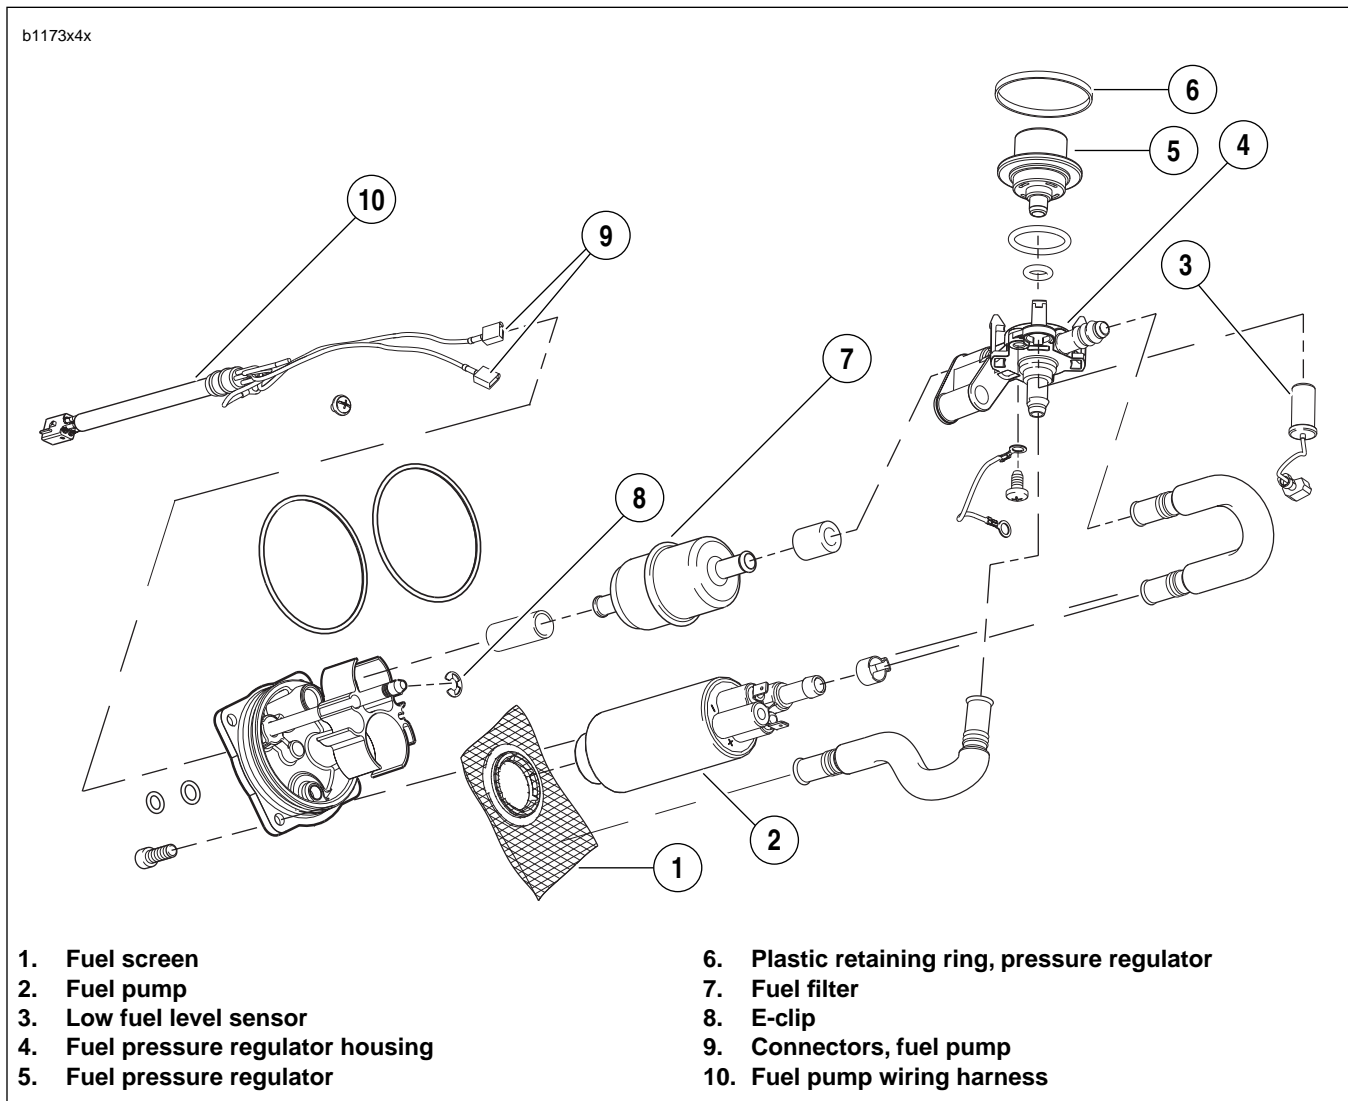

Figure 4-98. Fuel Pump Assembly
3. Remove ground fastener (12) from the fuel pump and fuel filter bracket (9).
4. Remove fuel pressure regulator E-clip (7).
5. Pull regulator housing (3) and fuel pump (8) with bracket (9) as an assembly.
6. See Figure 4-98. Pry fuel screen (1) from fuel pump (2).
8. Install regulator housing assembly (4, 5) and fuel pump (2).
9. Install E-clip (8) in bottom groove on shaft.